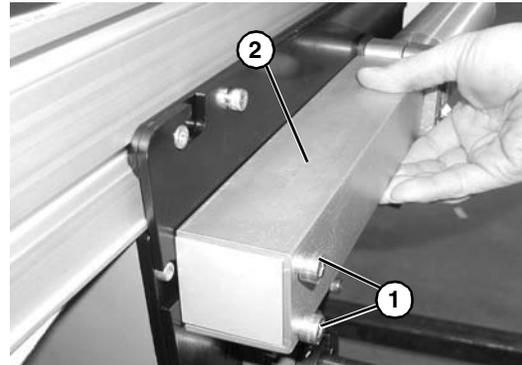

Figure 22
5. Remove screws (**Figure 22, item 1**) and tensioning guards (**Figure 22, item 2**) from both sides of center drive.